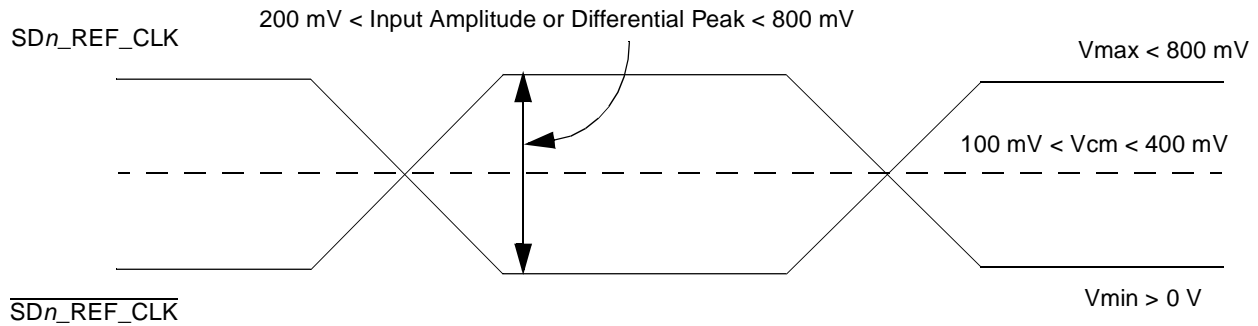

Figure 46. Differential Reference Clock Input DC Requirements (External DC-Coupled)
- For **external DC-coupled** connection, as described in Section 16.2.1, “SerDes Reference Clock Receiver Characteristics,” the maximum average current requirements sets the requirement for average voltage (common mode voltage) to be between 100 and 400 mV. Figure 46 shows the SerDes reference clock input requirement for DC-coupled connection scheme.